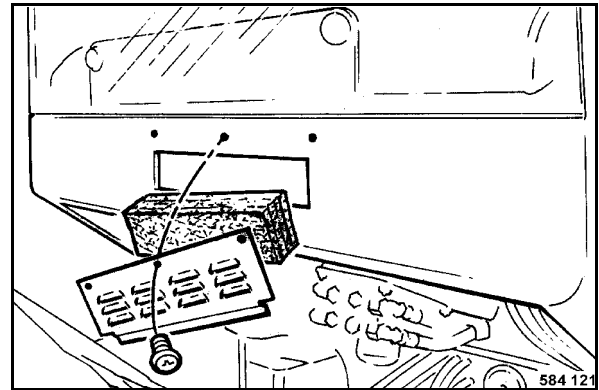

Fig. 193
- Unscrew fastening screws for the ventilation grid (Fig. 193) and remove the filter.